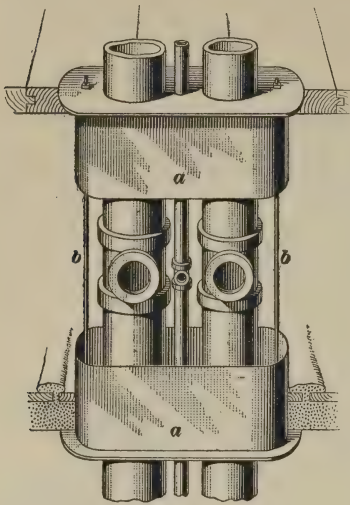

FIG. 64
**93.** A double-riser sleeve is shown in Fig. 64. It consists of two plates of the kind shown in Fig. 60 (*d*), with galvanized-iron sleeves *a, a* fastened to each plate. A space is left between the sleeves for taking connections from the tees shown under the floor. The sleeves can be made longer if desired, so that the pipes will be enclosed completely, one sleeve telescoping into the other. The method of securing these